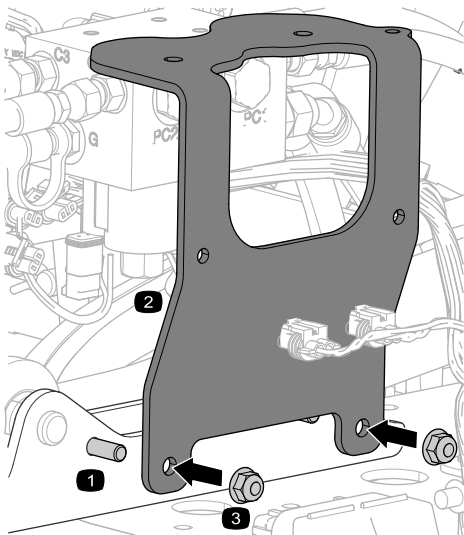

Figure 12
- 2. Use the previously removed nuts and bolts to secure the lift-manifold bracket to the mount plate (Figure 12).